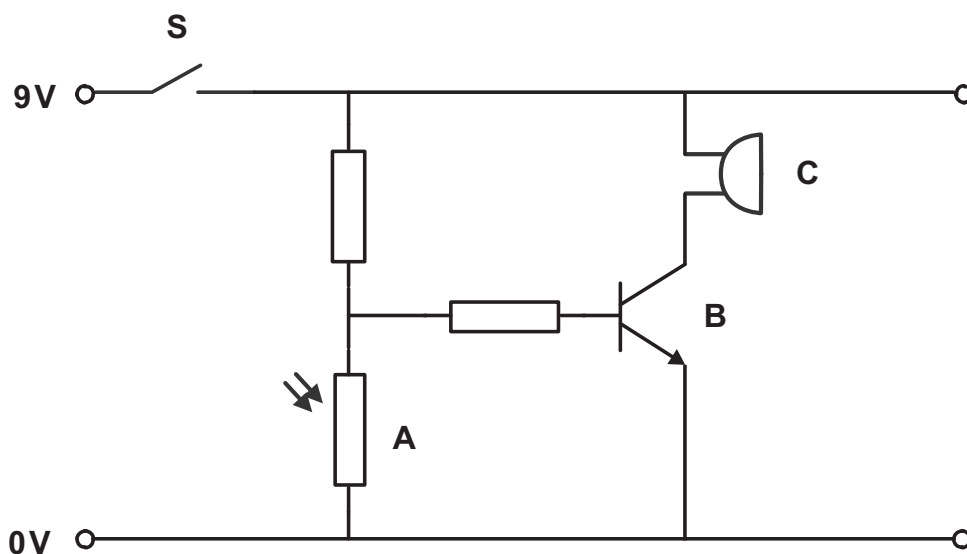

Fig. 9
- (b) An electronic circuit is shown in **Fig. 9**.
- (i) Name the electronic components represented by the electronic symbols labelled **A** and **B** in **Fig. 9**.
- (ii) Explain how the circuit in **Fig. 9** operates the buzzer labelled **C**.